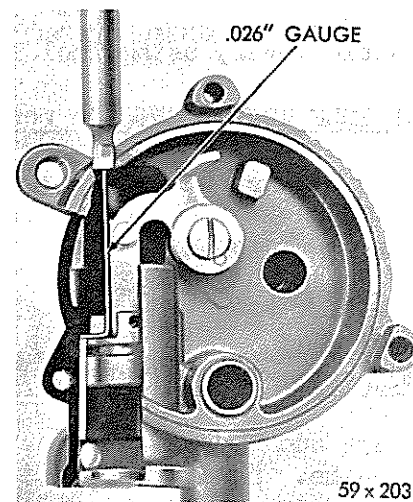

Fig. 9 - Choke Piston Index
4. Insert an .026 inch wire gauge* into choke piston slot so that hook on the end goes into slot in cylinder, as shown in Figure 9.
it is 115 degrees to the horizontal, as shown in Figure 9. Proper pedal angle is obtained by adjusting the accelerator pedal to accelerator shaft rod length at the ball joint located on the accelerator pedal end. Check for any binding in the throttle linkage and correct if present. All TorqueFlite transmission equipped cars have a throttle linkage adjustment at the transmission throttle operating lever. The purpose of this adjustment is to allow for permissible variations between body and engine locations in manufacturing and should not be used for making the throttle linkage adjustment.